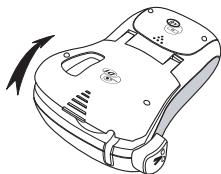

Figure 3
1. Lift the tape cassette cover to open the tape compartment. See Figure 3.